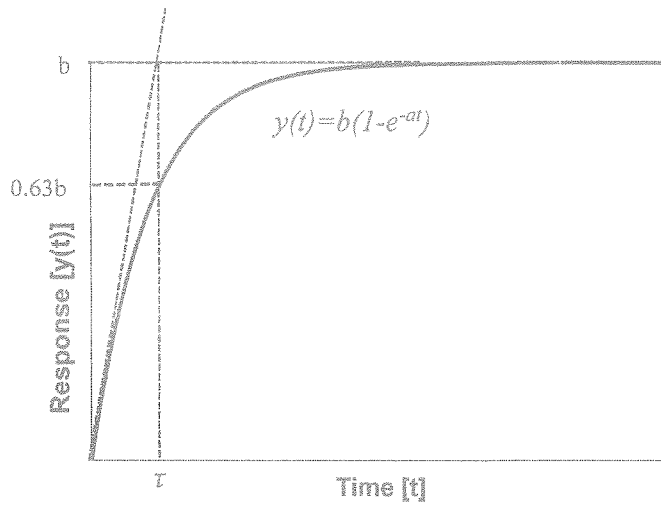

Figure Q1(c): First Order Rise
- c) Figure Q1(c) illustrates the first order rise for a unit step input and it is described by $y(t) = b(1 - e^{-at})$ where a and b are constants. The time constant τ is defined as the time at which the gradient at $t=0$ intersects the steady state level. Show that the response reaches approximately 63% of its steady state level after time constant.